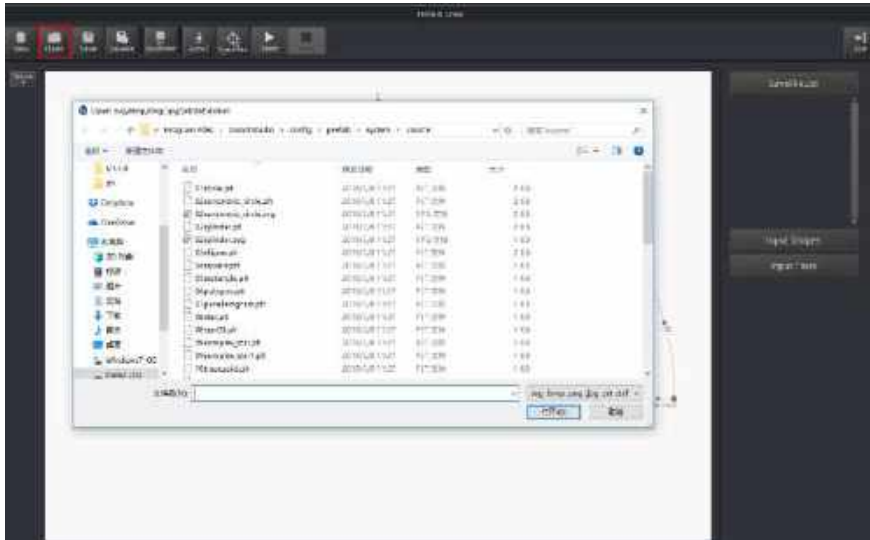

Figure 5.61 Open a PLT or SVG file
- Click **Open** on the **Write & Draw** page to import a built-in PLT or SVG image file from the DobotStudio installation directory *InstallatonDirectory\DobotStudio\config\prefab\system\source*, as shown in Figure 5.61. You can also import your custom PLT or SVG image file.